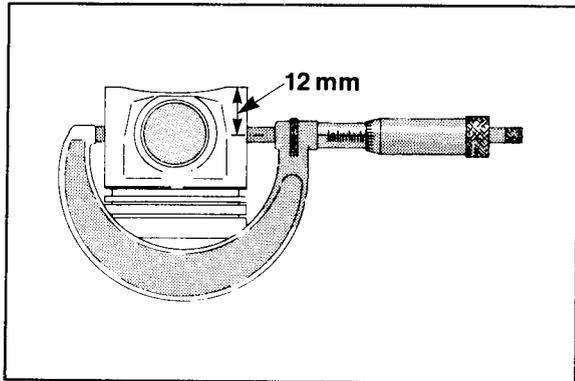

Figure 6-10
6. Using a micrometer, measure piston (Figure 6-10).